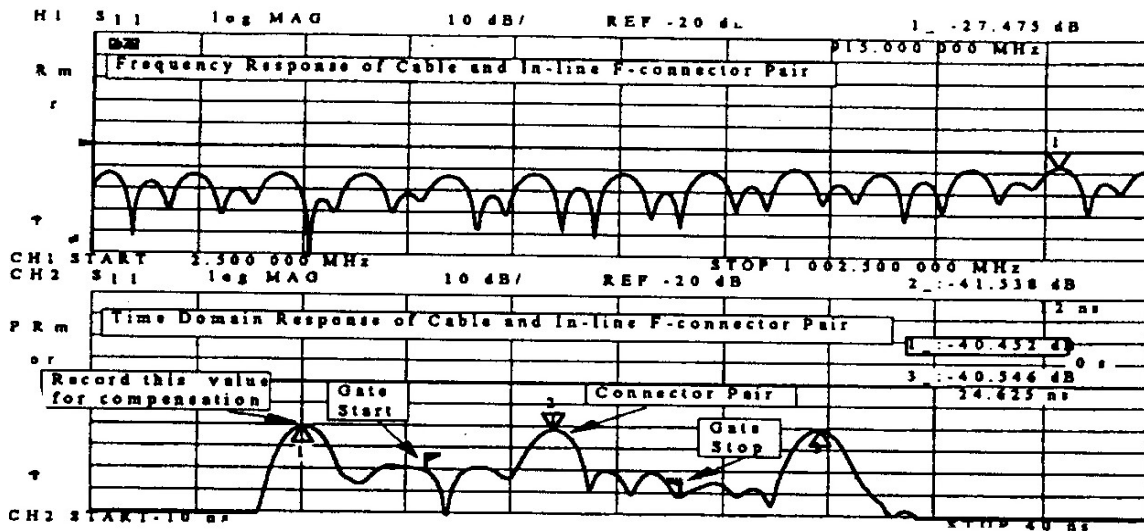
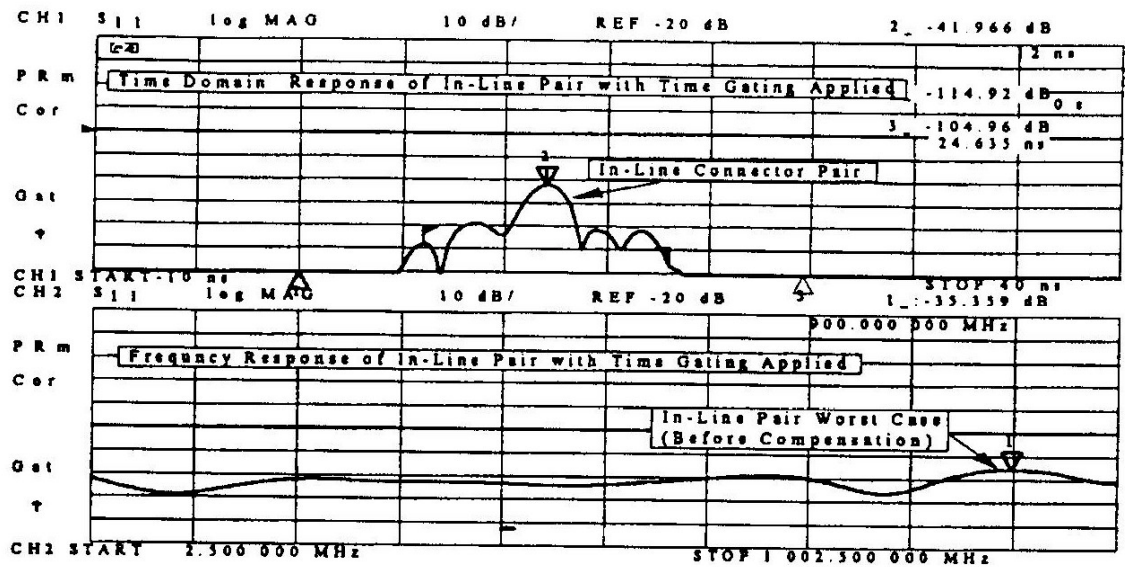

Figure 3: Frequency and Time Response of "F" Connector Pair
Figure 4: Time Gated Response of In-Line "F" Connector Pair
4.5 Prepare the test sample as described in 3.2. Connect this to the network analyzer. The reflection trace should show a ripple pattern, which is a beat pattern from both ends and the middle connector, as seen in the upper trace in Figure 3.
- 4.6 Under the System key, select the TRANSFORM menu. In this menu select the TRANSFORM ON. With time domain on, set the start time to -10 ns, and the stop time to 40 ns. You should see three returns, one from the near end, and one from the far end, and one from the middle, at approximately 12 ns. Record the value of reflection for the input connector (at time = 0 sec.). Set the gate start time to halfway between the near end return and the middle return (approx. $+6$ ns), and the gate stop time to halfway between the middle return and the far end return (approx. $+18$ ns). The lower trace of Figure 3 shows a typical example of the three returns.
- 4.7 Turn the gating ON. The time domain pattern of the return loss should change to show only the response of the middle connector. With gating ON, the near and far end return should disappear. A typical example trace is shown in the upper part of Figure 4.
- 4.8 With gating left ON, turn the transform OFF to see the time gated frequency response. The ripple pattern of Figure 3 should change to show the frequency response of only the in-line “F” connector pair. The lower track of Figure 4 shows a typical time gated frequency response. A marker is positioned at the worst-case point. Note that there may be some small edge effect at the start and stop of the trace.